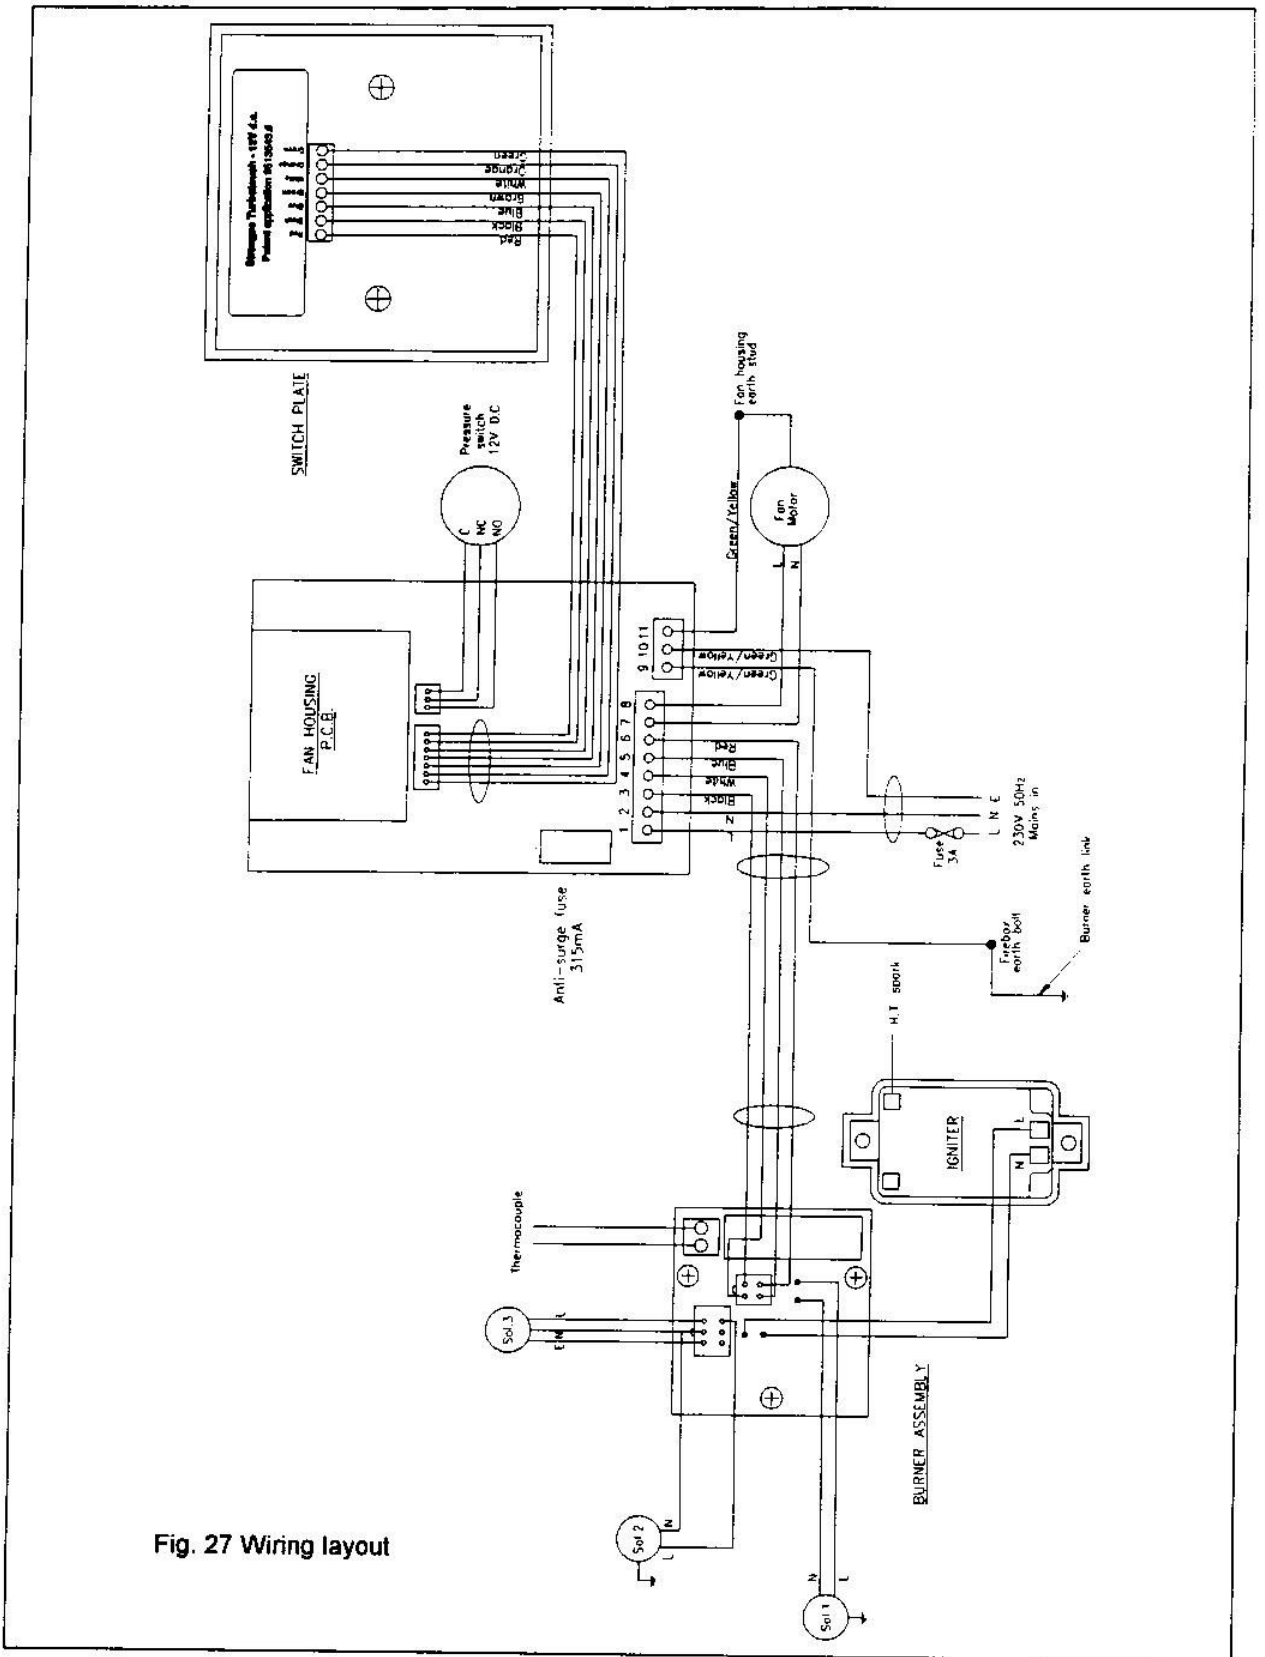

Fig. 27 Wiring layout
9. Reassemble, following steps 2 to 7 in reverse order. See Fig. 27 for wiring layout in the control box.